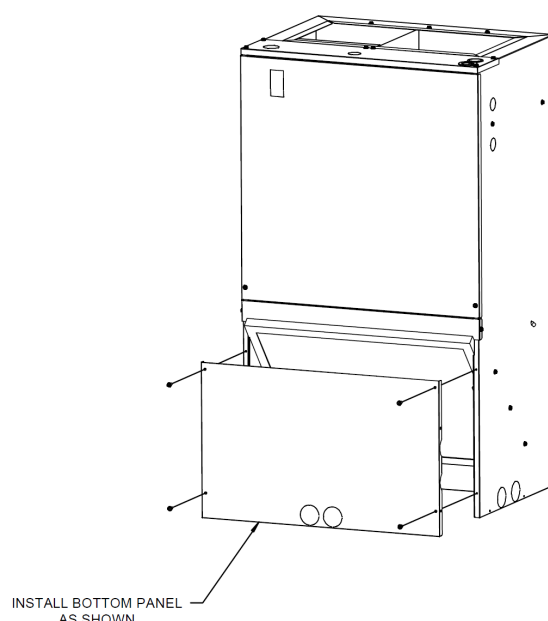

Figure 3 - Installation of Bottom Panel
3. Rotate and install bottom panel on front side of the unit. Refer to figure 3 – Installation of Bottom Panel.